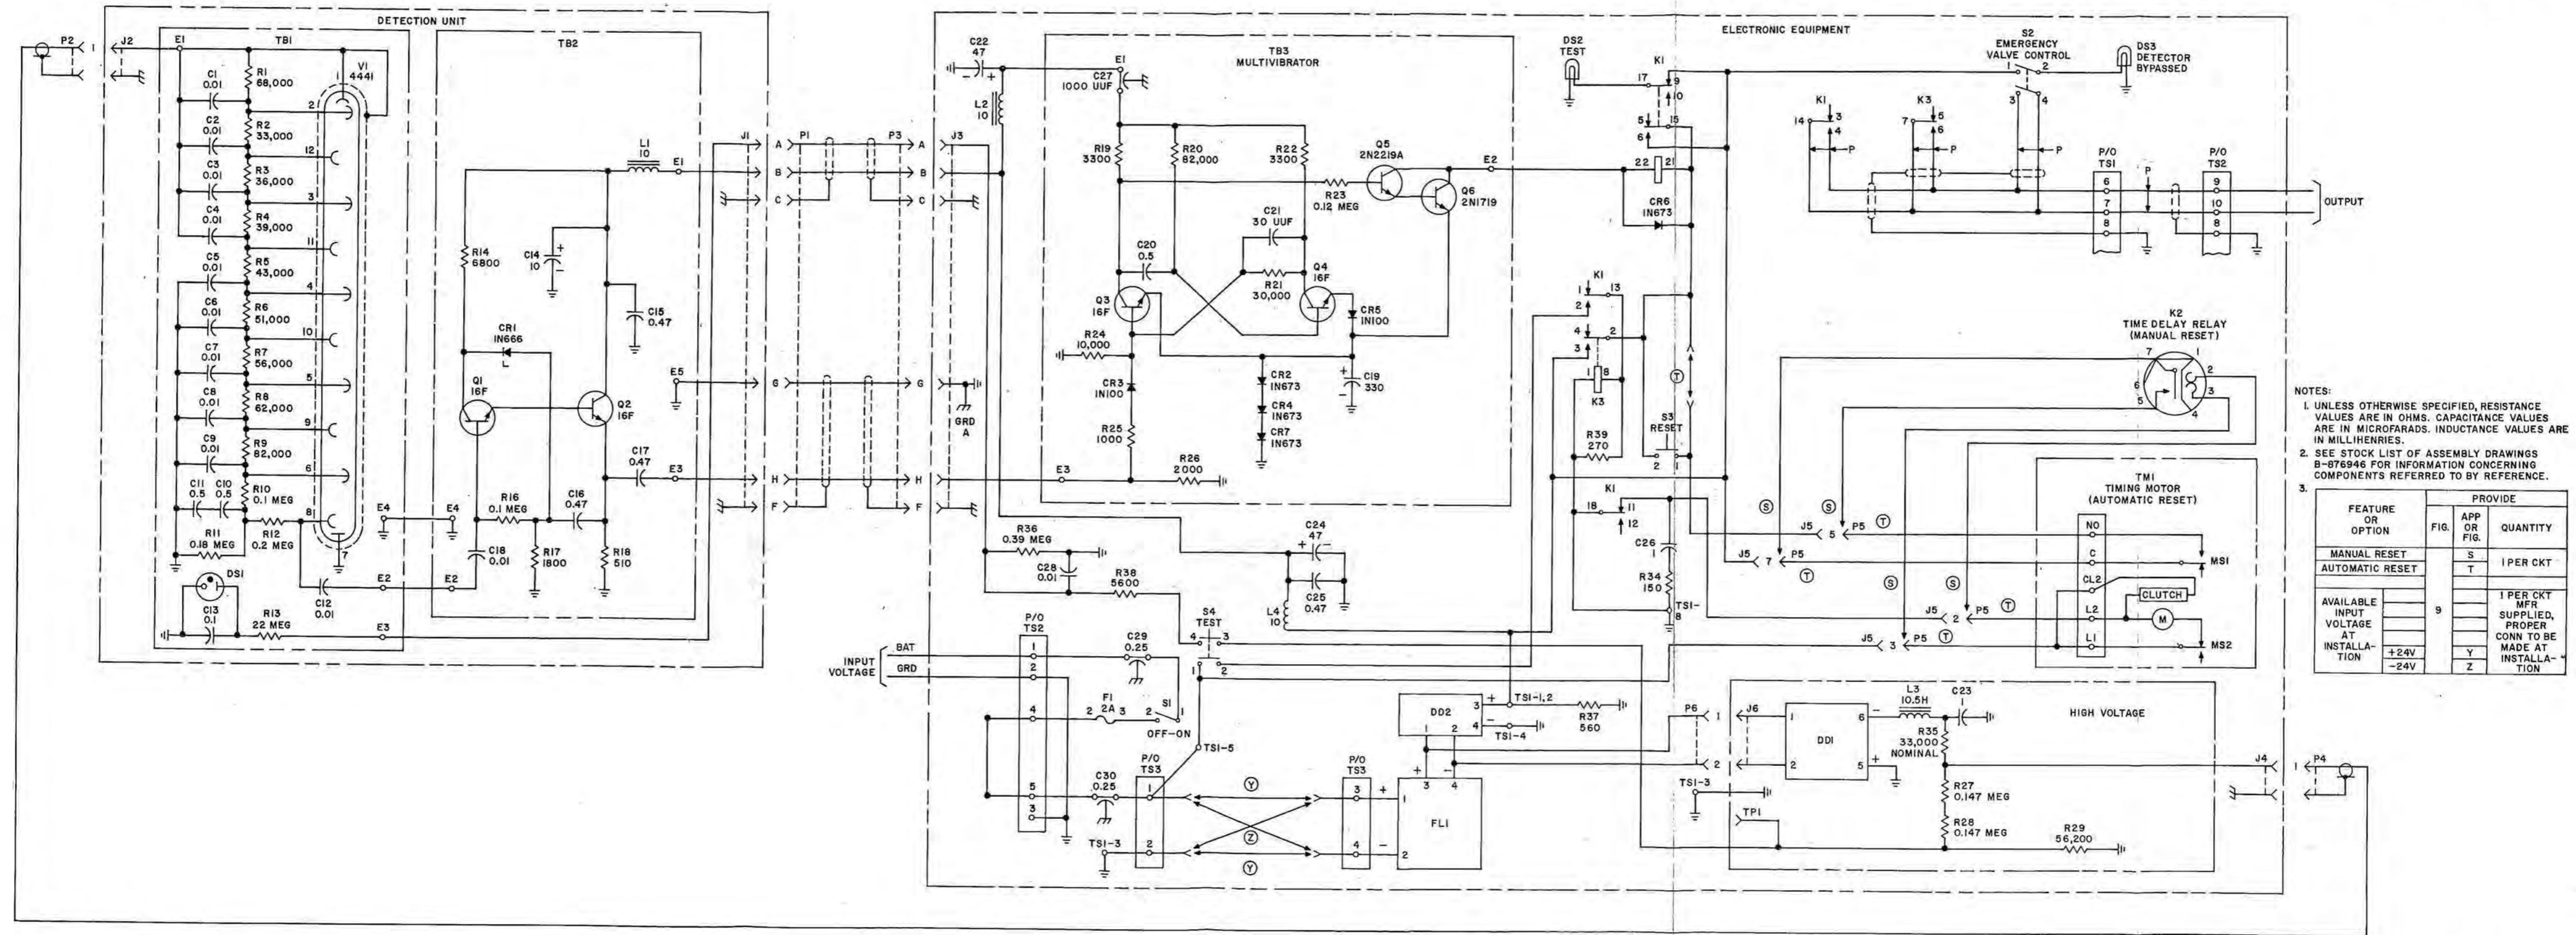

Fig. 9—KS-19557 Detector (Nuclear Blast) Schematic
8.01 Fig. 9 and 10 give the schematic and wiring diagrams, respectively, for the KS-19557 detector.